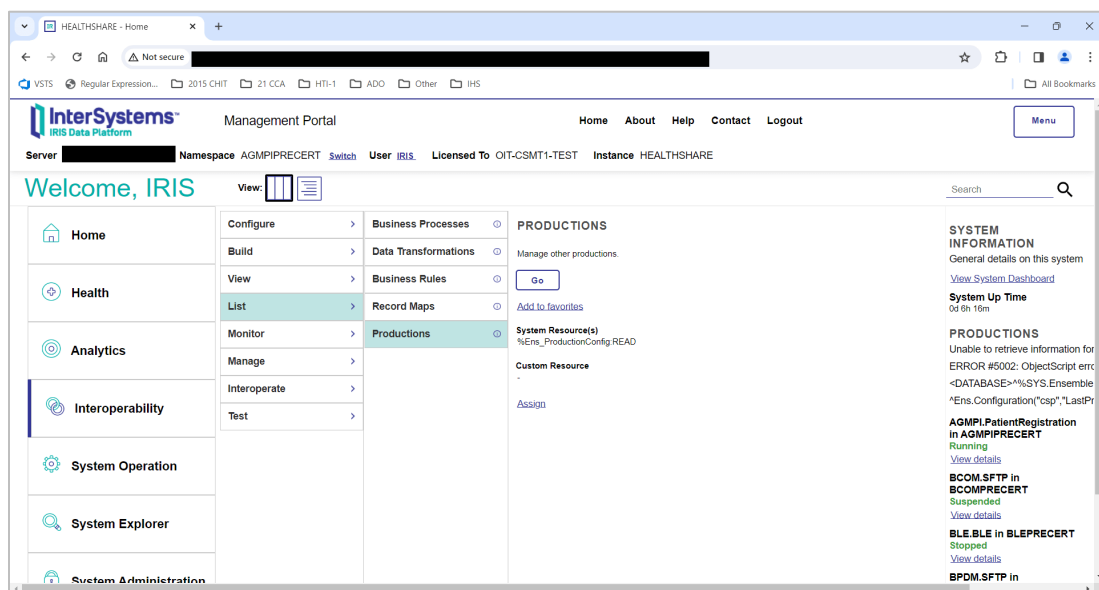

Figure 8-14: **Management Portal** page showing the **AGMPI.PatientRegistration** production with a status of running
- For an alternative view of the currently running production, return to the main **Management Portal** page to display the **PRODUCTIONS** list, as shown in Figure 8-14.